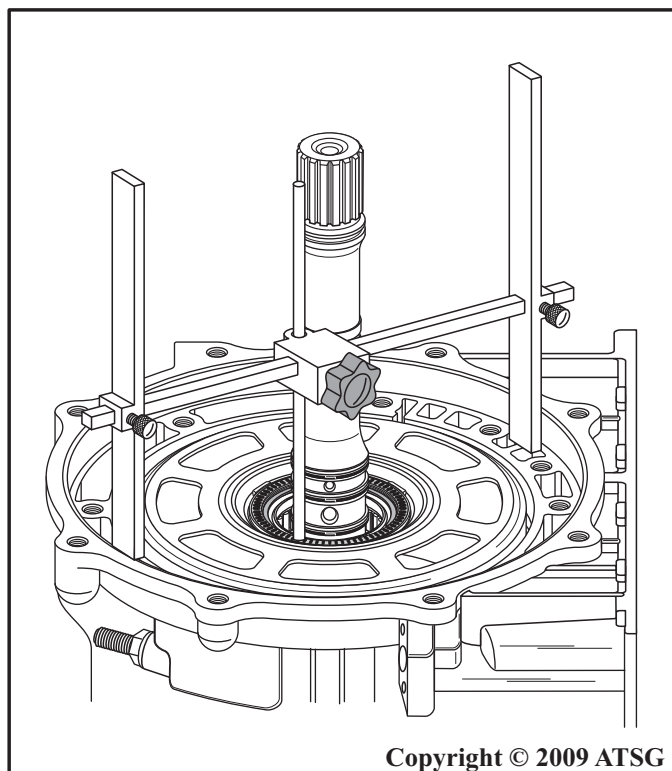

Figure 225
73. Install "H" gage on transmission, as shown in Figure 225, set adjustment rod on the roller surface of number 2 thrust bearing, and tighten the locking knob.